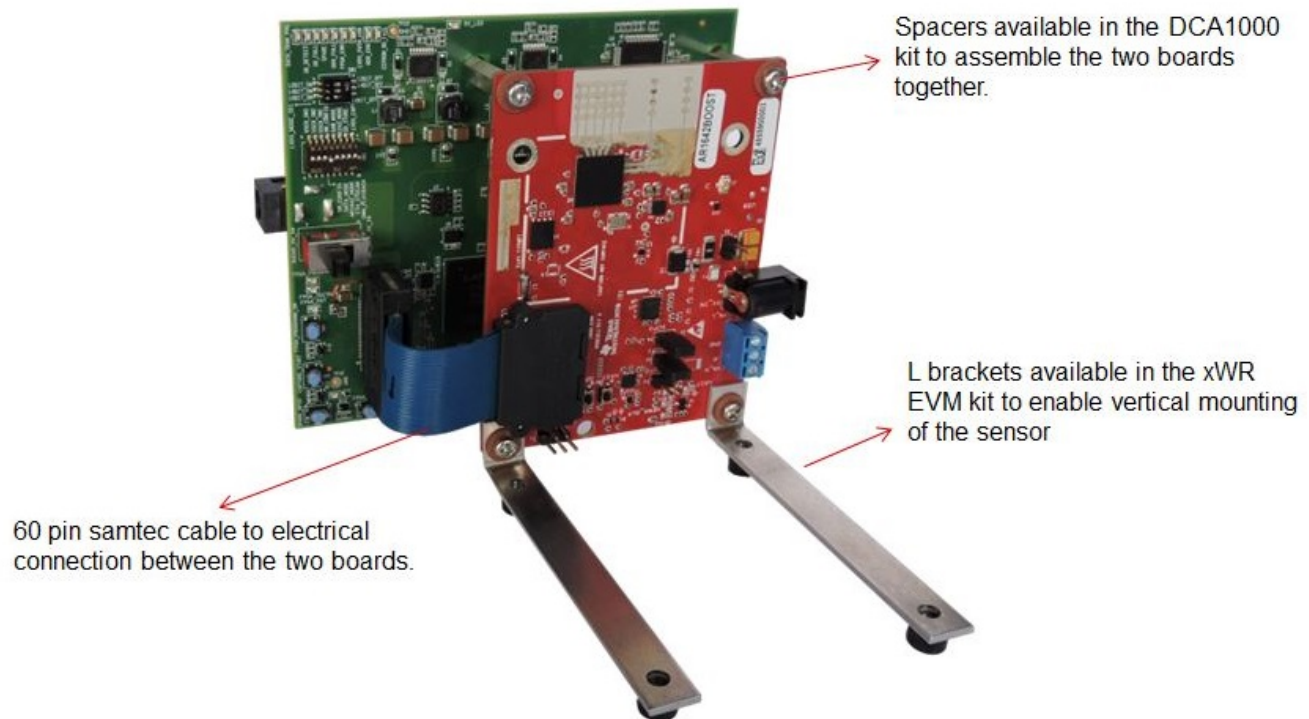

Figure 1. Hardware Connection: DCA1000 With xWR mmWave Sensor EVMs
- Interface the DCA1000 board with the xWR mmWave sensor EVMs, as shown in Figure 1.